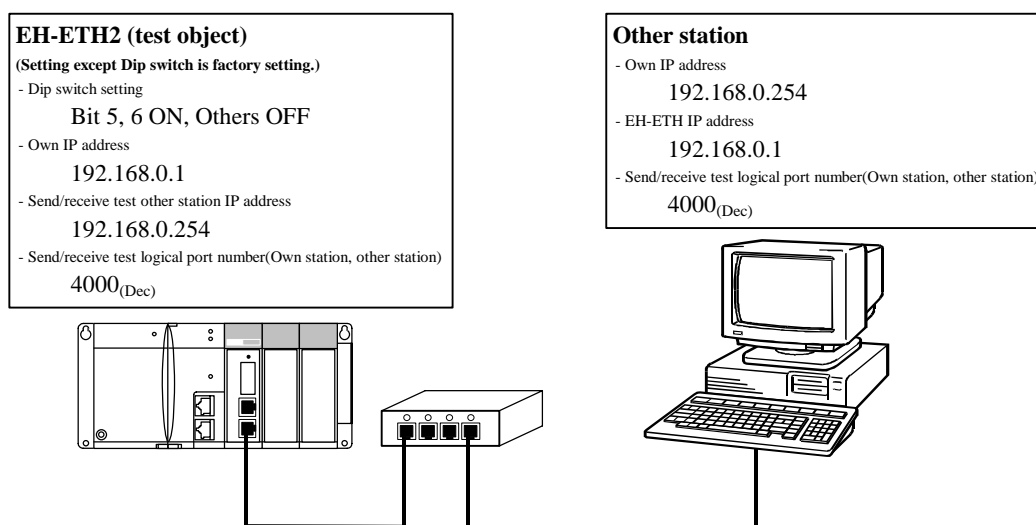

Figure 10.2 System configuration of communication test (2)
- Set communication parameter according to the Figure 10.2.